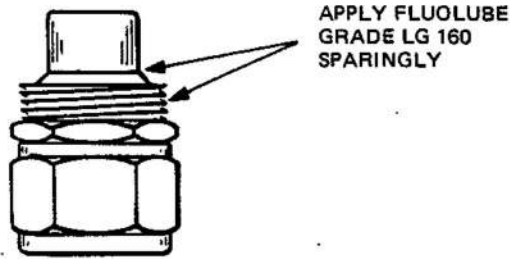

Fig. 5 Lubrication
5.6 Lubricate the nipple on both the threaded and chamfer areas shown in Fig. 5 with Fluolube grade LG 160.